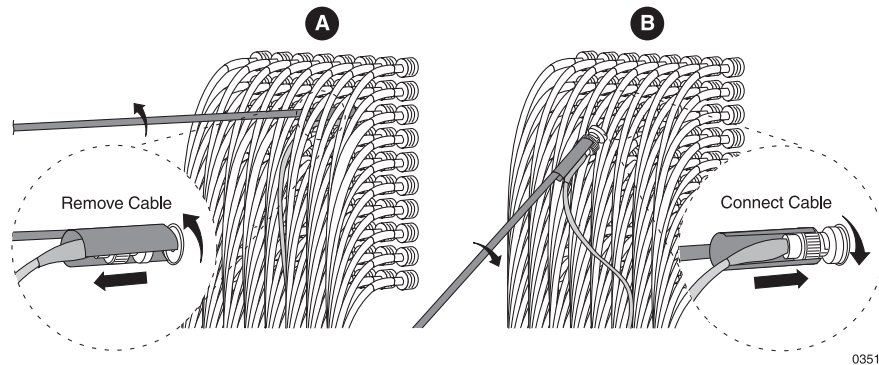

Figure 22 Using a Trompeter Tool
- b Connect the cables to the BNC connectors; because of the close proximity of the connectors, a Trompeter tool (to insert or extract BNC cables) can help you make the connections; see Figure 22.